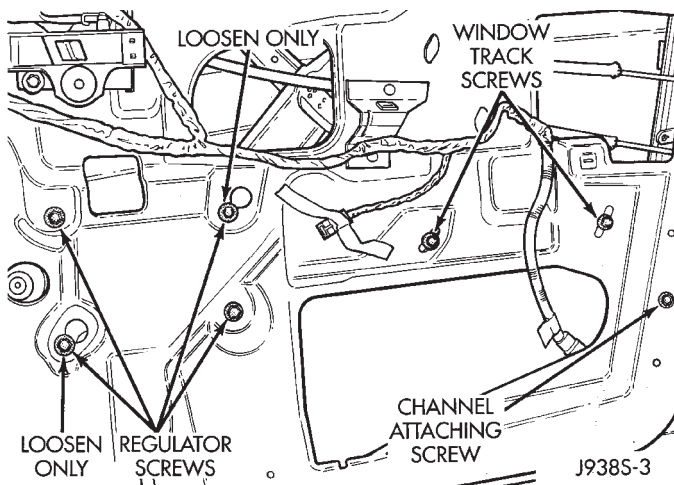

Fig. 5 Window Track Attaching Bolts—Front Door
(1) Remove door panel as described in Switch Replacement.
(2) Remove 1 bolt holding bottom of window track to door (Figs. 5 and 6).